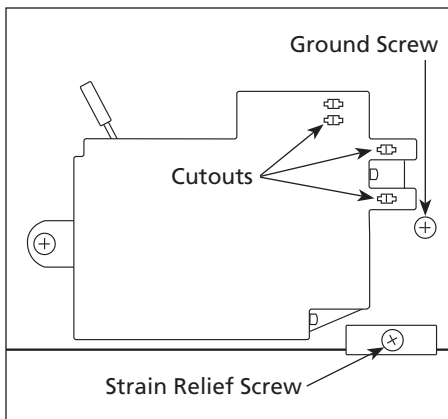

Figure 3
3. Locate cut-outs on the back of pressure switch (See Figure 3). Insert
4. Remove ground screw (See Figure 3).
5. Remove strain relief screw (See Figure 3).